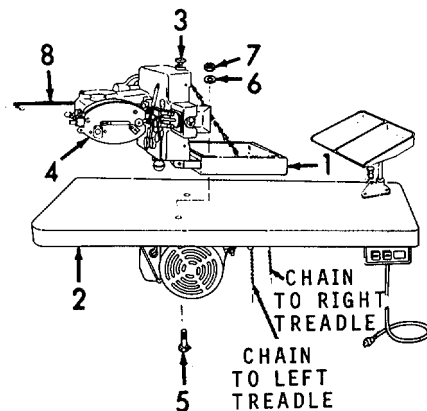

Figure 2-14. Button Sewing Machine Table, Installation.
- (8) Refer to Figure 2-14. Set the sewing machine (1) on the table (2).
- (9) Loosen lock thumbscrew (3) and carefully tilt machine head (4) over from base.
- (10) Aline mounting holes in base with holes in tabletop.
- (11) Secure base to tabletop with three bolts (5), three washers (6), and three nuts (7) that are to be found in base.